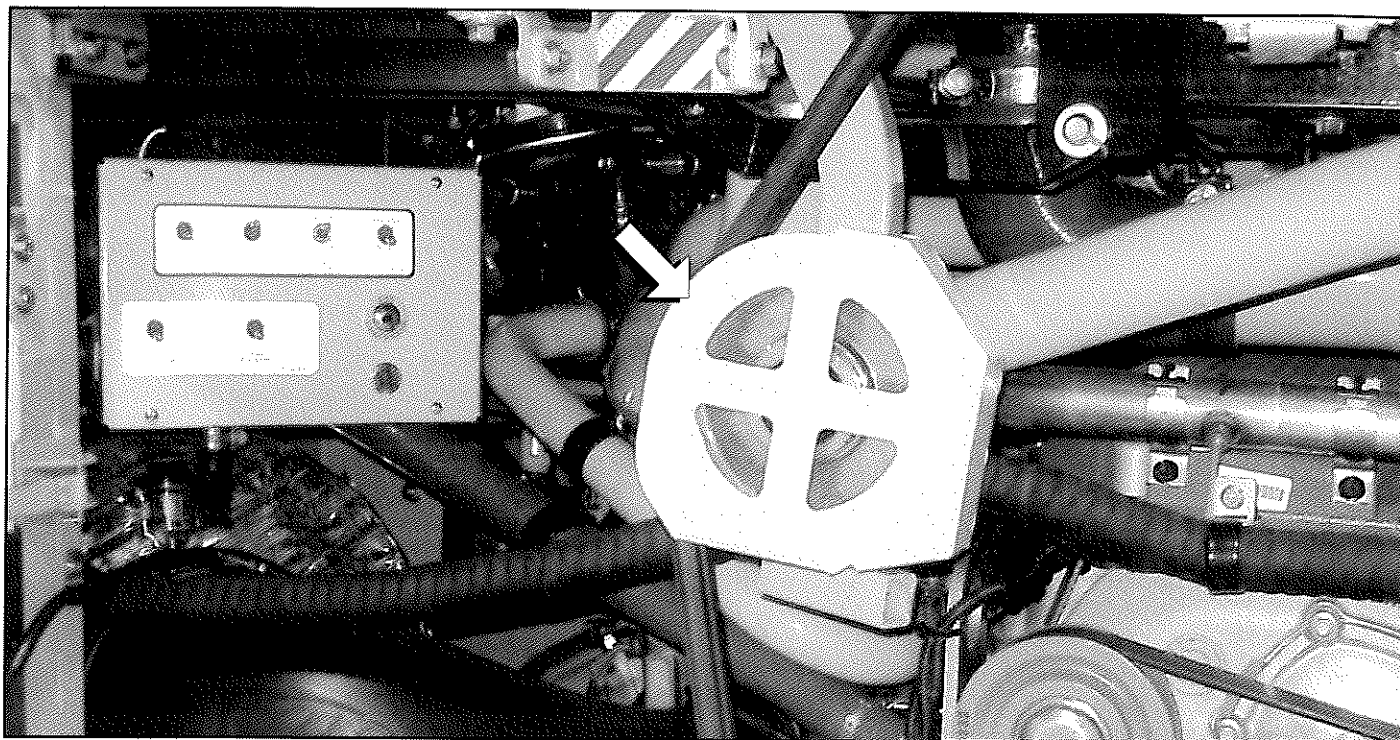

Figure 1.
3. Open the engine door. Locate the fan belt idler pulley cover (refer to Figure 1).